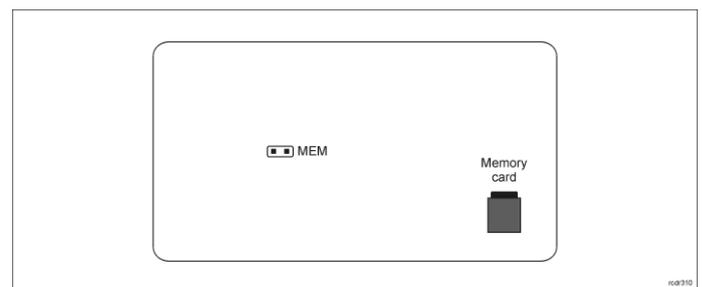

Fig. 3 Service contact and memory card
1. Place jumper on MEM contacts (fig. 3).
2. Place jumper on MEM contacts (fig. 3).
2. Press and remove memory card from socket (fig. 3).